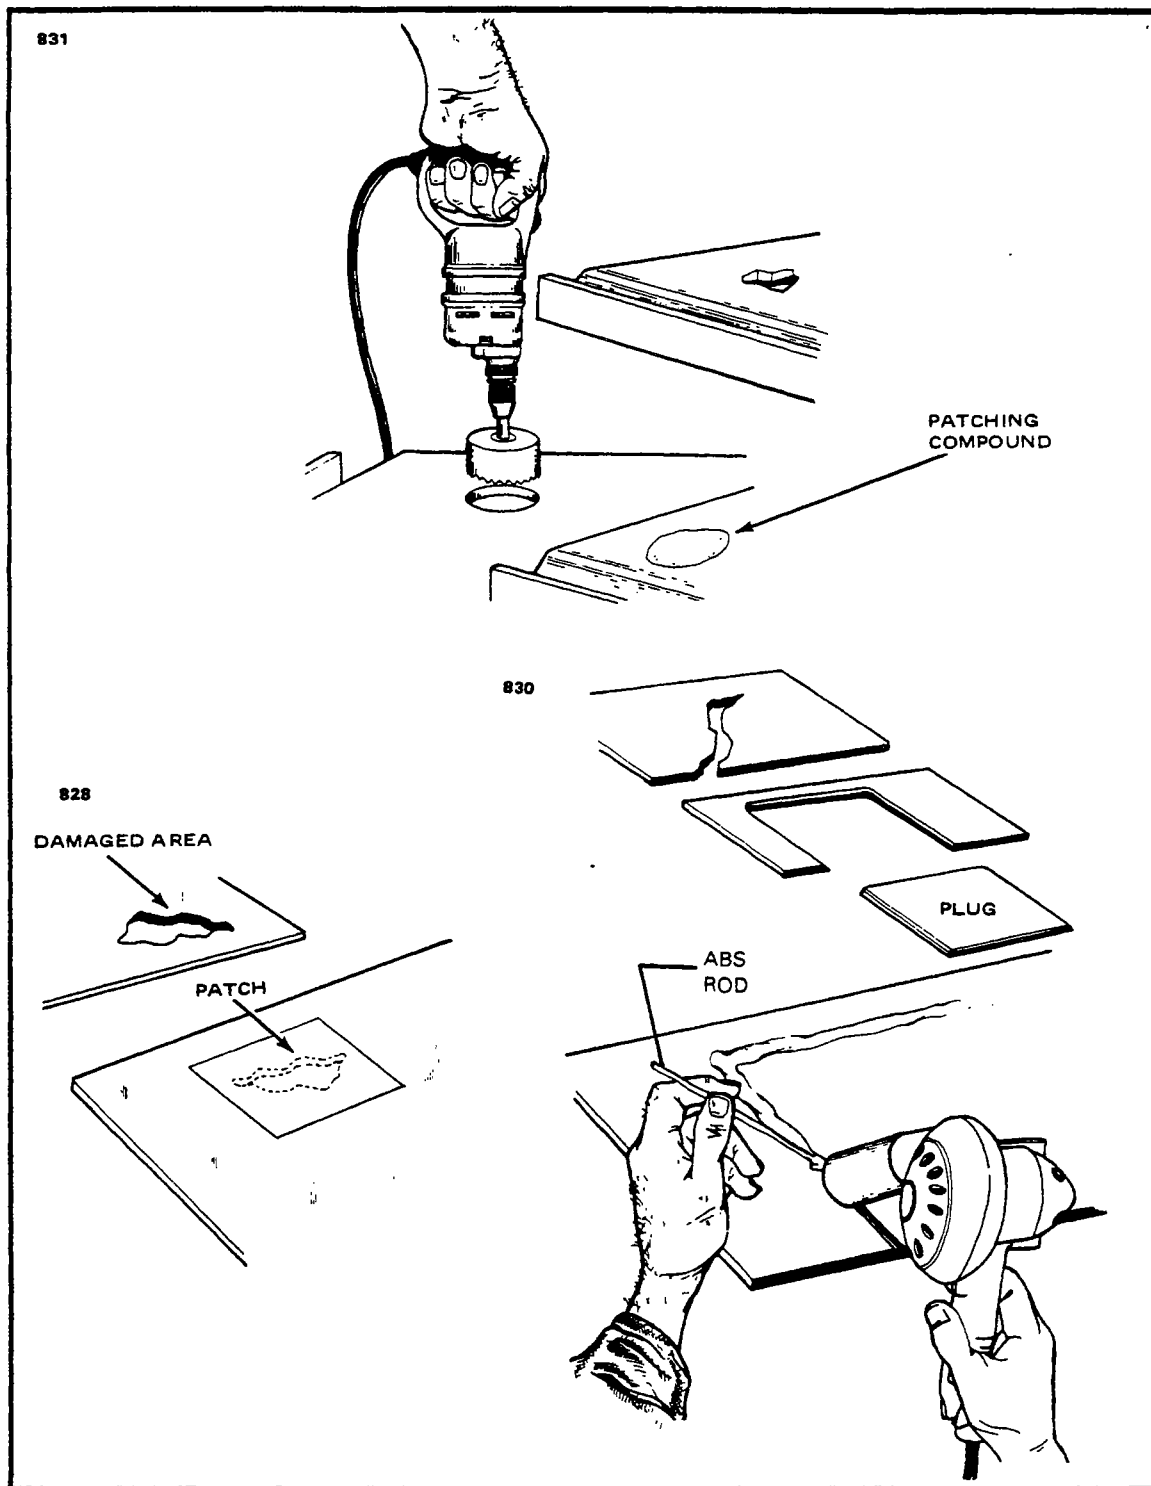

Figure 4-16. Various Repairs
e. Repairing Major Damage: (Larger than 1 inch in diameter.) (Refer to Figure 4-16.)